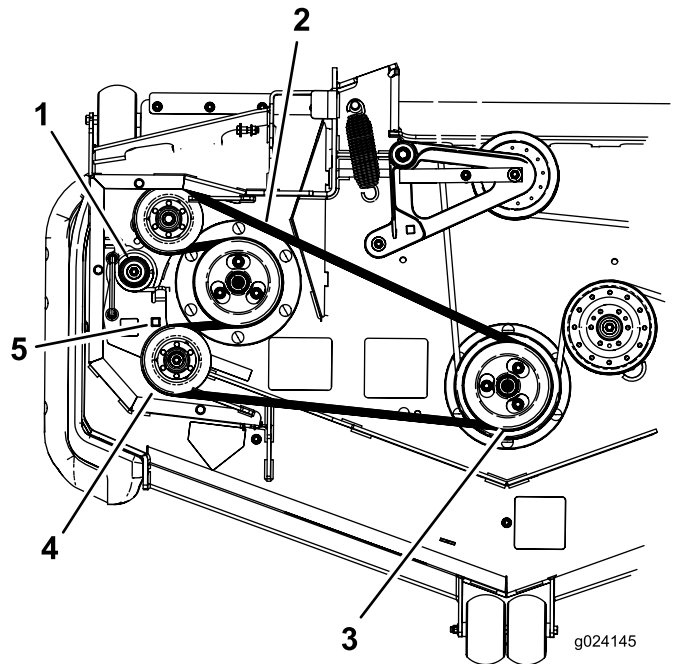

Figure 76
7. Use a ratchet in the square hole in the idler arm to remove tension on the idler spring (Figure 76).
8. Remove the belt from the mower deck pulley (Figure 76).
9. Remove the belt from the remaining pulleys (Figure 76).
10. Using the ratchet in the square hole, install the new belt around the mower pulleys and the idler pulleys (Figure 76).